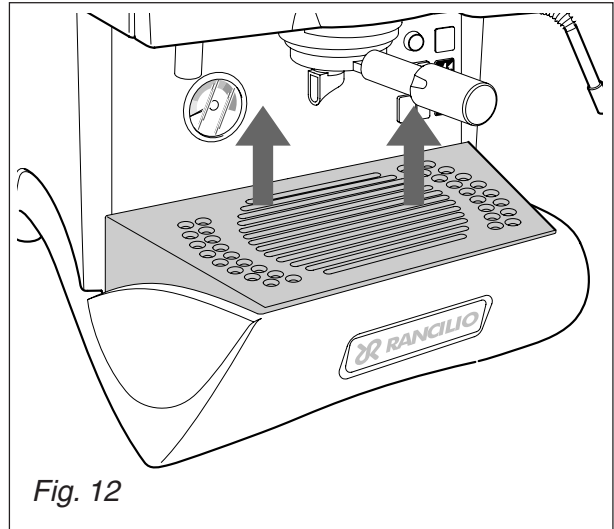

Fig. 12
- Remove the cup-stand grille 1 (Fig.12) and clean.